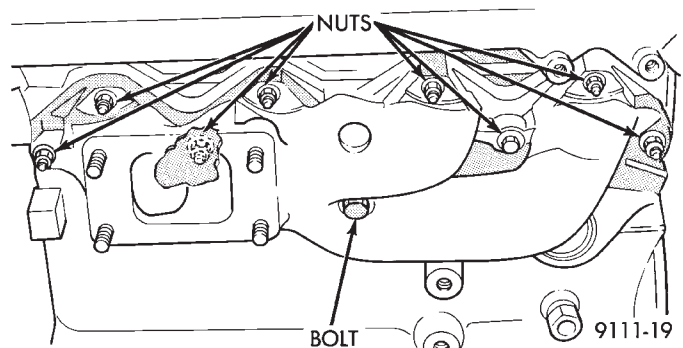

Fig. 14 Exhaust Manifold—Turbo III Engine
Remove 9 exhaust manifold retaining fasteners and remove exhaust manifold (Fig. 14).
(1) Install new manifold gasket. **DO NOT APPLY SEALER.**
(2) Set exhaust manifold in place. Tighten retaining nuts and bolt, starting at center and progressing outward in both directions to 23 N•m (200 in. lbs.) torque. Repeat this procedure until all fasteners are at specified torque (Fig. 14).